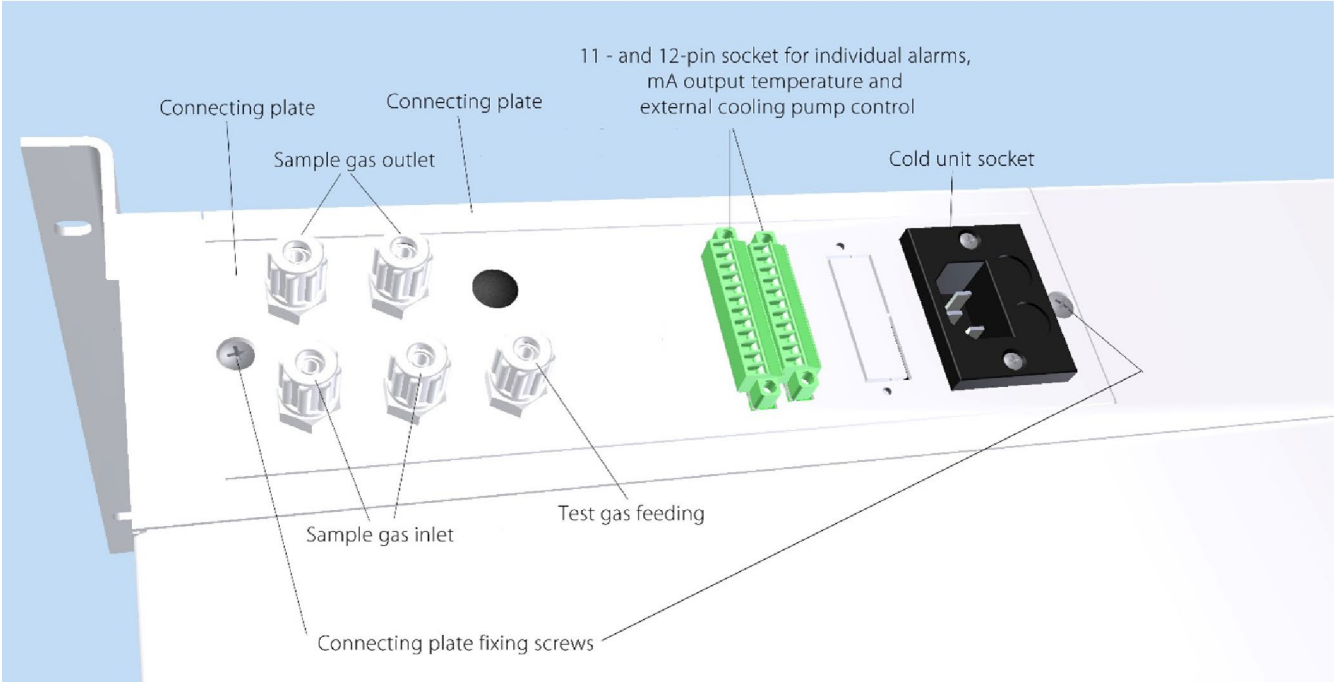

Figure 3 Connections in the connection panel of the CSS-VC..
1. Remove the connection-panel mounting screws (see Figure 3)